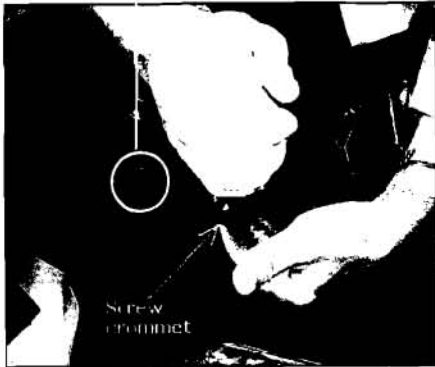

Figure 5
- C) **Figure 5** - Remove the screw grommets on one side & then remove lower side cover.